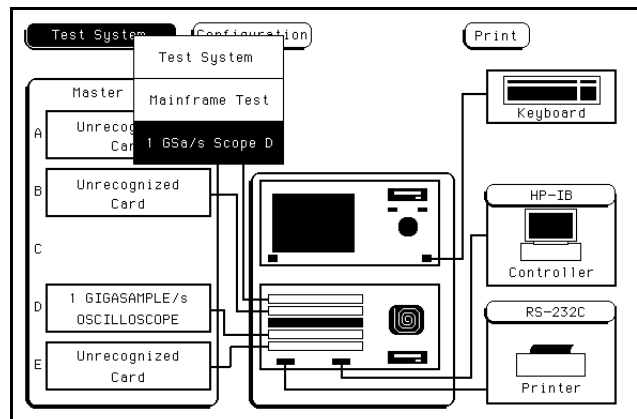

Figure 6-4. Test System Screen
5. From the test system screen in figure 6-4, touch **Test System**, then touch **1 GSa/s SCOPE D**. (For the example shown in figure 6-4, the oscilloscope module is in slot D. If multiple oscilloscope modules are present, select the one to be tested.)